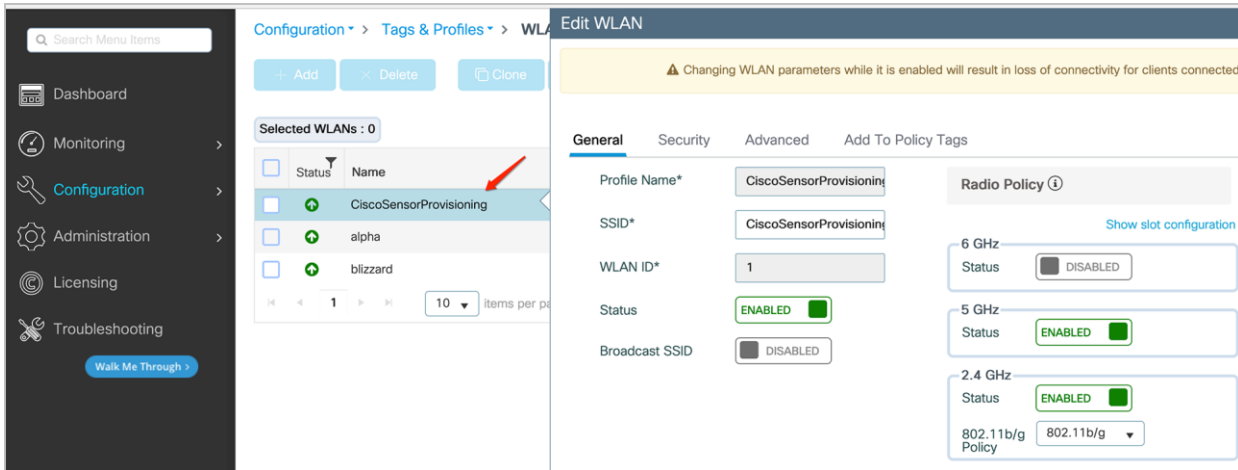

Figure 17.
2. After provisioning is enabled, the network administrator can view the newly added SSID from Configuration > Tags and Profiles > WLANs (**Figure 17**).